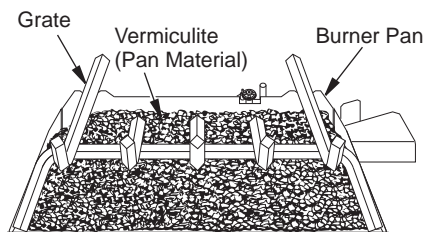

Figure 22 - Fill Entire Burner Pan with Vermiculite
1. Open bag(s) of vermiculite and fill entire burner pan until burner tube is completely covered (see Figure 22).